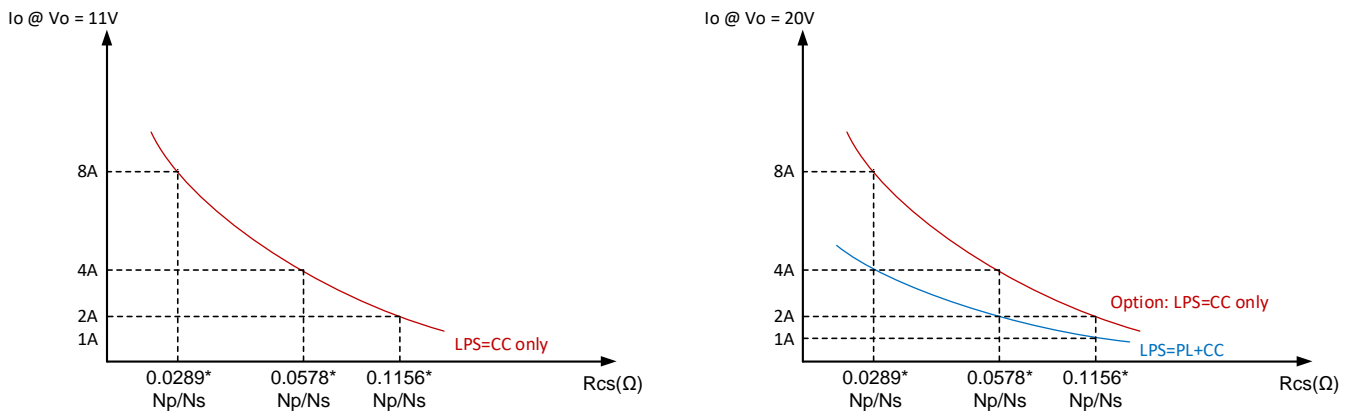

Figure 25 LPS vs. Rcs
The NV9510 family products incorporates built-in power limit (PL) and current limit (CC) circuits to limit output power in the event of the protocol IC becoming malfunction. As Figure 25 shows, when output voltage is equal and lower than 11V, the LPS is controlled by CC; when higher than 11V, the LPS is controlled by PL and CC or CC only. The LPS can be adjusted by current sense resistance, it is recommended to have 10~15% margin.